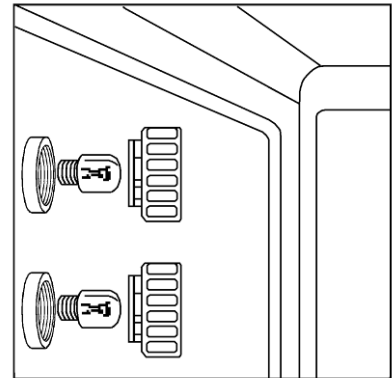

Fig. 5
**Replacing oven lamp** - Electrically switch off the appliance; unscrew the protective glass cap (Fig. 5); unscrew the lamp and replace it with another lamp suitable for high temperatures (300°C), with the following characteristics: